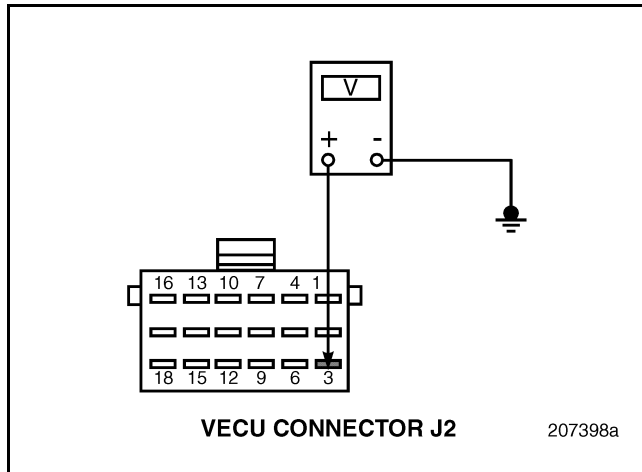

Figure 241
4. Measure the voltage between VECU connector J2 pin 3 and a good ground (see Figure 241).